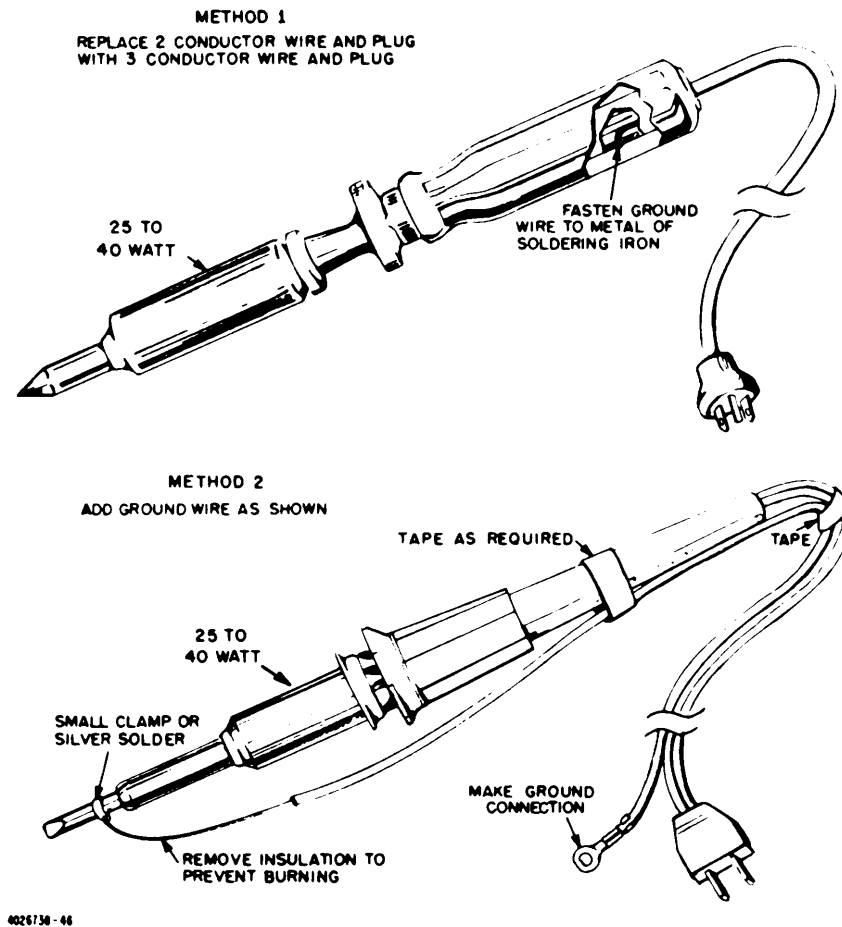

Figure 4-29. Recommended Methods for Grounding Soldering Irons
1. Tools . Recommended tools are a vise or special jig to hold circuitboard, a 25 to 40-Watt pencil type soldering iron with special provision for grounding soldering tip (see figure 4-29) and a pair of needlenose pliers.
(c) Do not use an ungrounded soldering iron (see figure 4-29) when soldering microelectronic devices; heater induced voltages will destroy the input capacitor of MOS microelectronic devices.